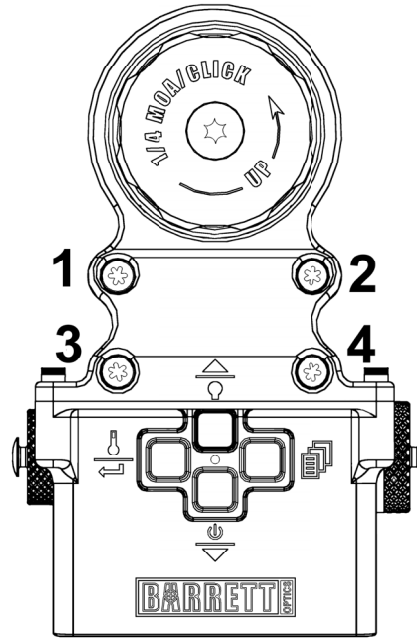
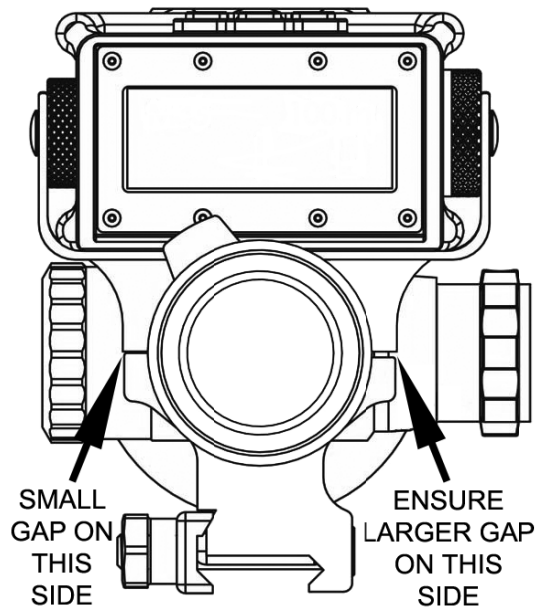

Figure 2-8
Figure 2-9
8. Ensuring the elevation knob rotates freely, evenly tighten Mount Screws (T-25 Torx®) # 1 and # 2. Figure 2-8. There should be a gap between BORS and the scope ring bases. Figure 2-9.
9. Tighten mount screws # 3 and # 4, and torque all four mount screws, in sequence # 1 to # 4, to 35in/lbs or 3.95Nm. Figure 2-8.